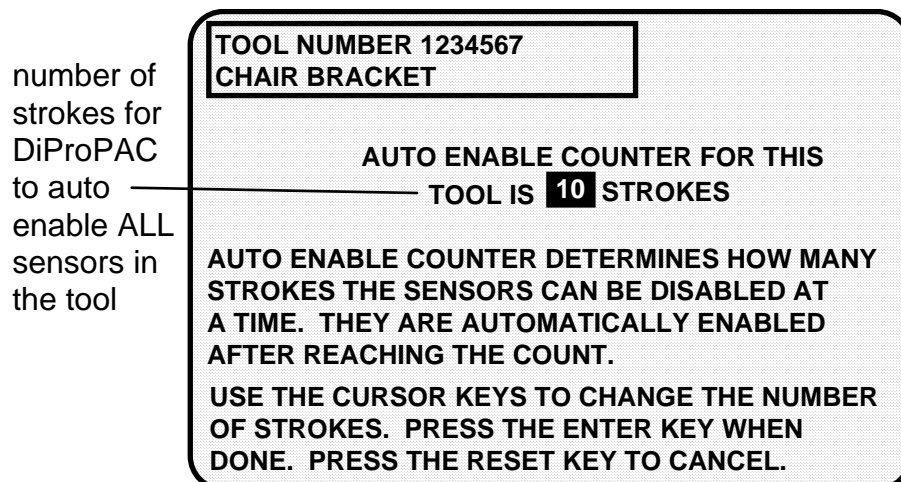

Figure 5-9. Setting "Auto enable by tool" counter
6. *If you had selected "Auto enable by sensor and tool" in Initialization mode (Chapter 4), a screen appears asking you to enter the stroke value. If you had selected "Auto Enable by tool" in Initialization, this screen will not appear (refer to Figure 5-9 toward the beginning of this section).*